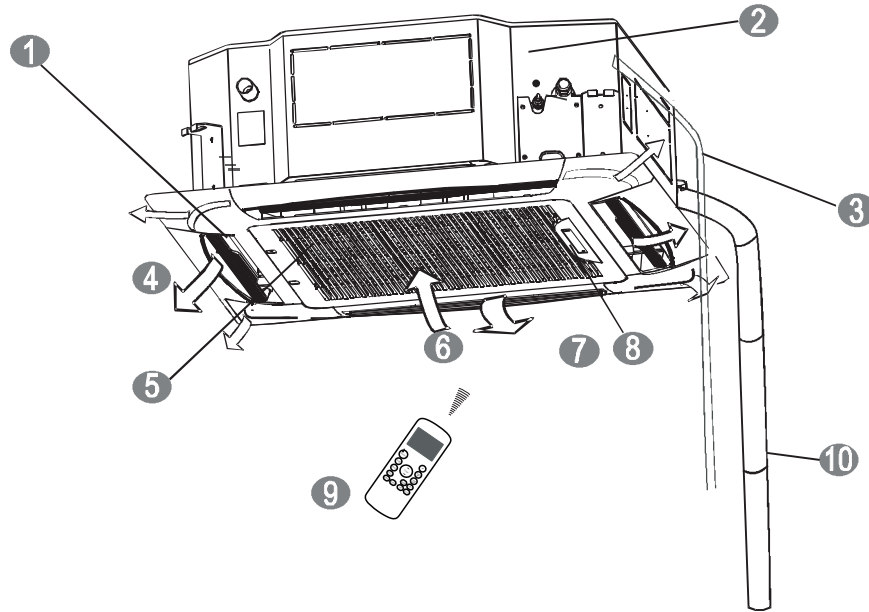

Fig. 1 – Parts List
- Fig.1 is only a sketch. Different models may differ slightly.